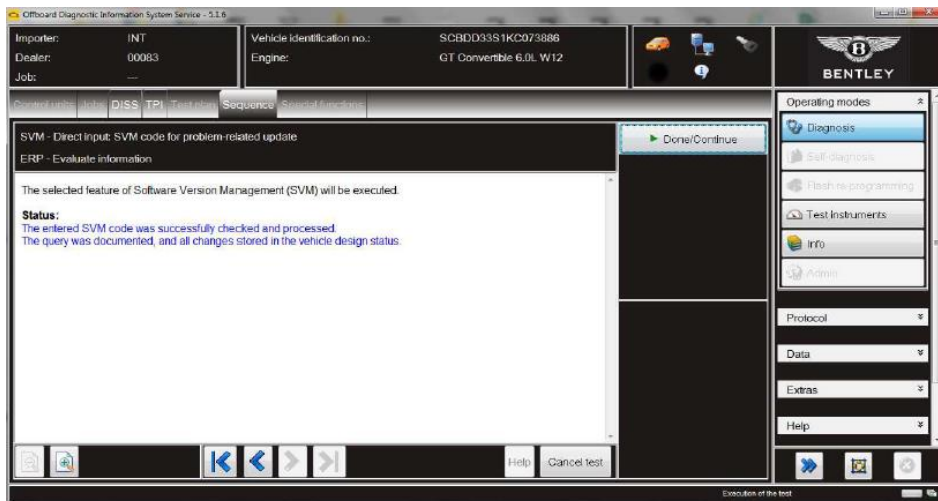

Figure 5
8. When the SVM is complete you will receive the following confirmation message, select Done/Continue (Figure 5).